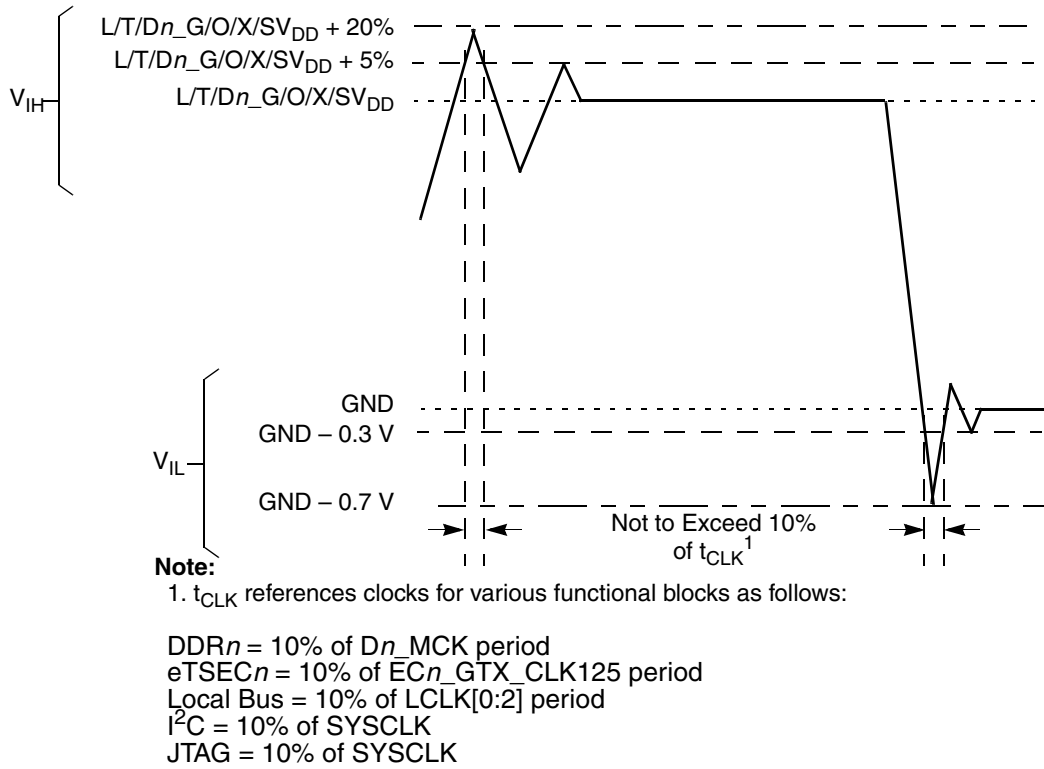

Figure 2. Overshoot/Undershoot Voltage for D n _M/O/L/TV $_{IN}$
- During run time (M,L,T,O) V_{IN} and Dn_MV_{REF} may overshoot/undershoot to a voltage and for a maximum duration as shown in Figure 2.
- Caution:** Dn_MV_{IN} must meet the overshoot/undershoot requirements for Dn_GV_{DD} as shown in Figure 2.
- Caution:** L/TV_{IN} must meet the overshoot/undershoot requirements for L/TV_{DD} as shown in Figure 2 during regular run time.
- Caution:** OV_{IN} must meet the overshoot/undershoot requirements for OV_{DD} as shown in Figure 2 during regular run time.
- Timing limitations for $M,L,T,O)V_{IN}$ and Dn_MV_{REF} during regular run time is provided in Figure 2
Figure 2 shows the overshoot and undershoot voltages at the interfaces of the MPC8641.